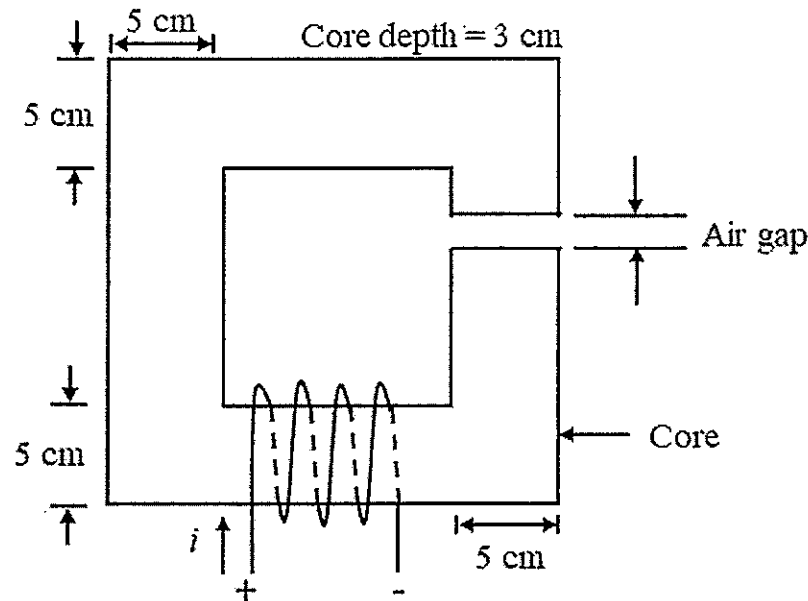

Figure Q1(a)
- (b) A balanced wye-connected load having an impedance of  $(15 + j18)\Omega$  per phase is connected to a three-phase line as shown in Figure Q1(b). The line impedance is  $(5 + j2)\Omega$  per phase. The line is supplied by a three-phase source with line-to-line voltage of 480 V. Given  $V_{bc} = 480\angle -30^\circ$  V and assuming a positive sequence for the source voltages: